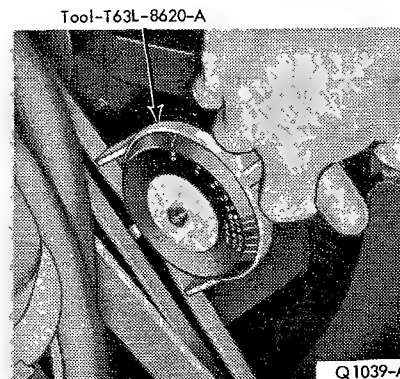

FIG. 2 Belt Tensioning
1. Install the belt tension tool on the drive belt (Figure 2) and check the tension.